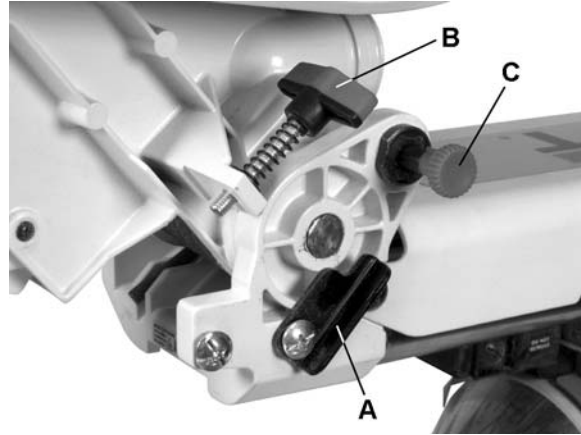

Figure 32
3. Lower the cutting head (the *hold-down latch C*, Fig. 32 must be in the *out* position as shown) so the tip of the blade touches the top surface workpiece at the marked line.